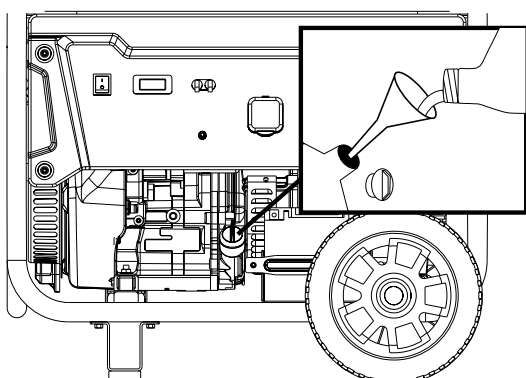

Figure 15 - Oil Fill Plug/Dipstick
5. Remove oil fill plug/dipstick (see Figure 15 below).